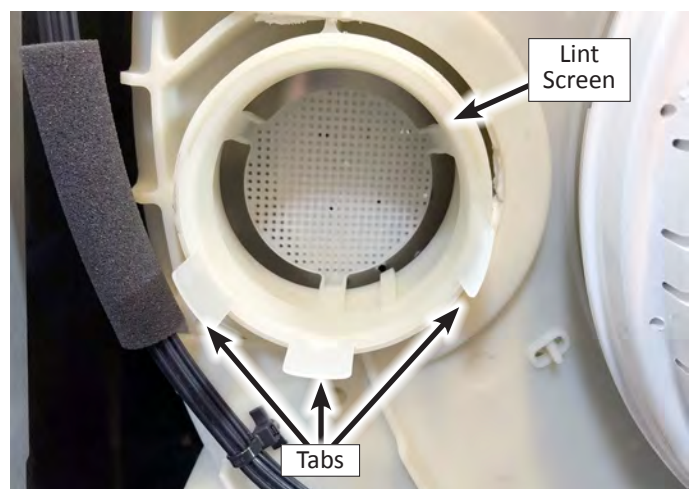

Figure 3
11. Remove the lint screen (see Figure 3). **NOTE:** Be sure the three tabs point downward when reinstalling lint screen.